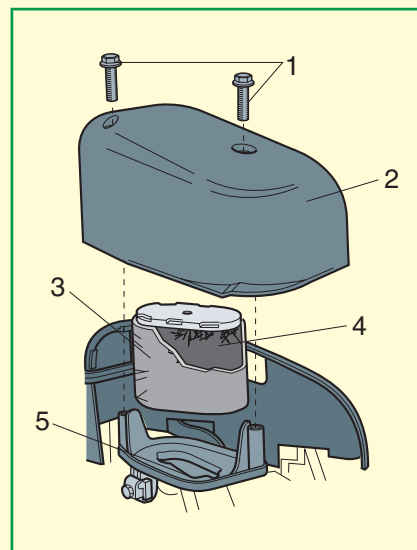

Fig. 2
- Explain the convention of referring to the numbered parts on the diagram in the instructions (e.g. 'Loosen the screws (1)').
- Also explain the convention of Fig. 2. When encountering this kind of 'exploded' diagram, a good strategy is to spend some time locating each of the numbered parts, before starting to follow the instructions. Sometimes there is a key to help with this but sometimes – as in this set of instructions – the part names are 'buried' in the text.
See Fig. 2